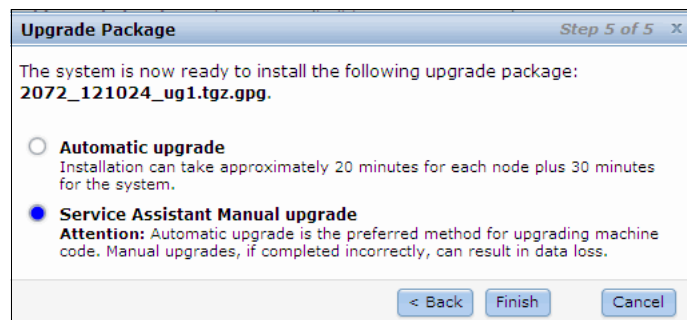

Figure 9-31 Select manual upgrade mode
1. In the management GUI, click **Settings** → **General** → **Upgrade Machine Code** and run the Launch Upgrade wizard. In step 5 of the wizard, select **Service Assistant Manual upgrade**, as shown in Figure 9-31.